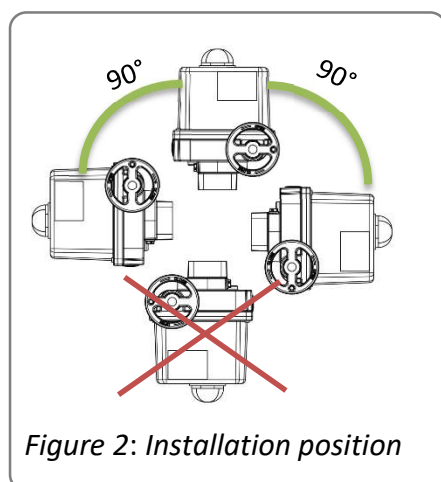

Figure 2: Installation position
- Any installation position is allowed except “cover pointing downwards” (figure 2).